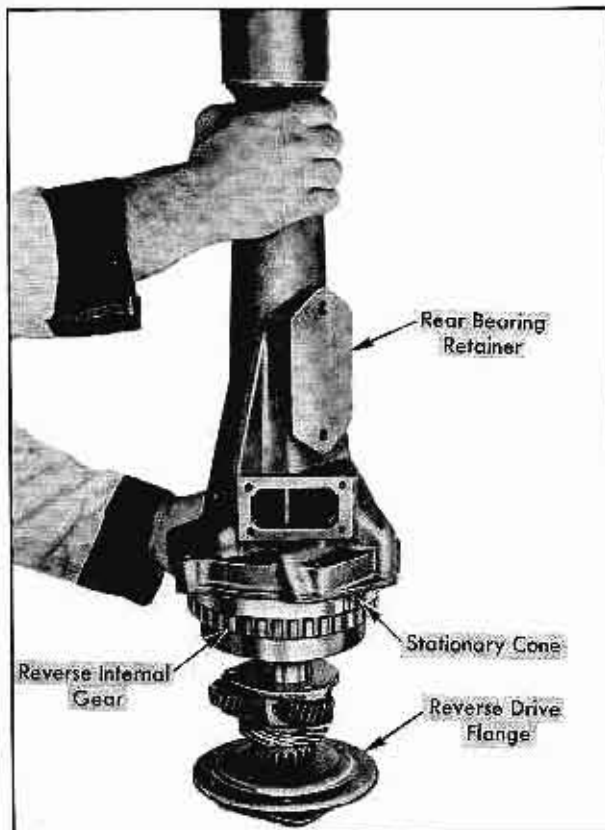

Fig. 14-35 Removing Rear Bearing Retainer
5. Stand rear bearing retainer on carrier end, lift up on rear bearing retainer and tap output shaft with rawhide hammer to free it from the ball bearing -- then lift rear bearing retainer from output shaft. Fig. 14-35.